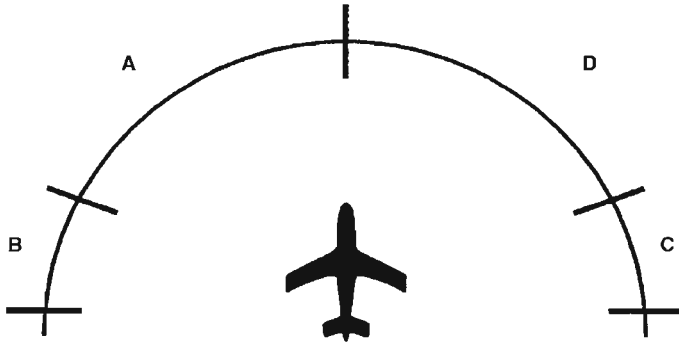

Figure 9.2 Variation of crosswind direction in a descent.
A crosswind from the left of the aircraft's nose in the northern hemisphere is more difficult for the following reason: The wind backs in direction during a descent in the northern hemisphere. Therefore, a crosswind from the left of the aircraft's nose becomes greater nearer the ground because it backs in direction from (A) to (B) in Fig. 9.2 resulting in a lower headwind component and a greater crosswind component.